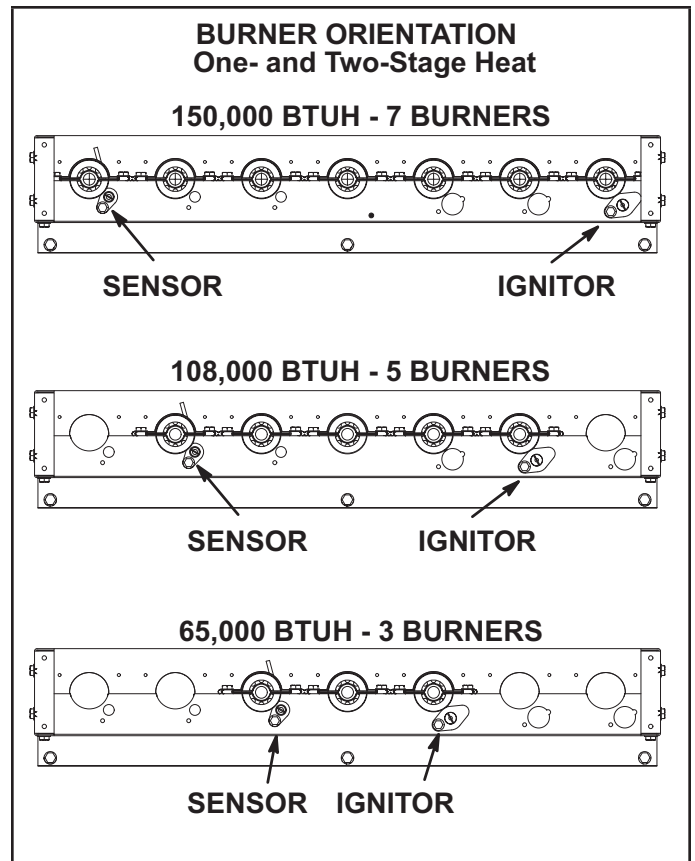

FIGURE 38
- 6 - Replace burners and screws securing burner. See FIGURE 38.